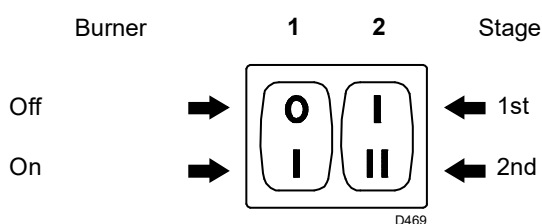
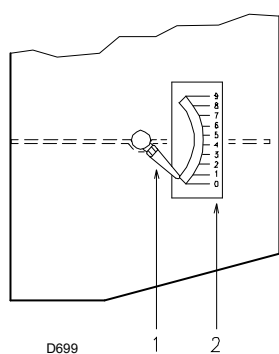
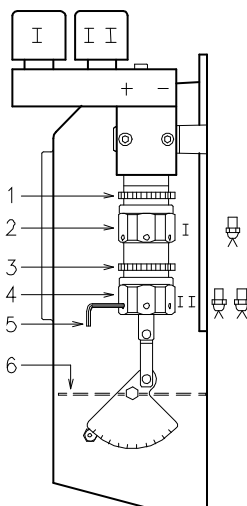

Fig. 23
Fig. 24
Fig. 25
Set switch 1)(Fig. 23) to "ON".
Keep the burner operating at 1st stage by setting the switch 2)(Fig. 23) to the 1st stage position. Opening of the air gate valve 6)(Fig. 25) must be adjusted in proportion to the selected nozzle: the index 1)(Fig. 24) must be aligned with the notch 2)(Fig. 24) specified in table (Tab. E) This adjustment is achieved by turning the hex element 2)(Fig. 25):
2.3 notch (Fig. 24) aligned with index 1).
When the adjustment is terminated lock the hex element 2)(Fig. 25) with the ring nut 1).
N° = Notch 2)(Fig. 24)
Set switch 2)(Fig. 23 page 21) to the 2nd stage position and adjust the air gate valve 6)(Fig. 25) by turning the hex element 4)(Fig. 25), after having loosened the ring nut 3)(Fig. 25).